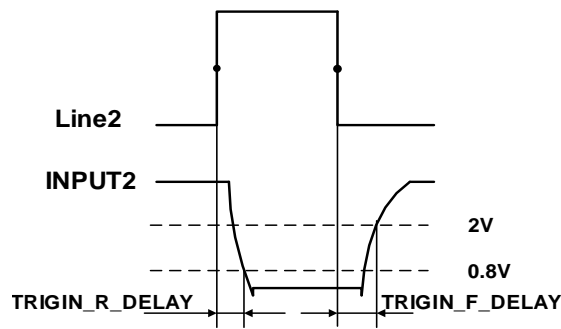

Figure 7-10 Parameter of Line2 input circuit
- Input rising time delay: $<2\mu\text{s}$ ($0^{\circ}\text{C}\sim 45^{\circ}\text{C}$), parameter description as shown in Figure 7-10
- Input falling time delay: $<2\mu\text{s}$ ($0^{\circ}\text{C}\sim 45^{\circ}\text{C}$), parameter description as shown in Figure 7-10